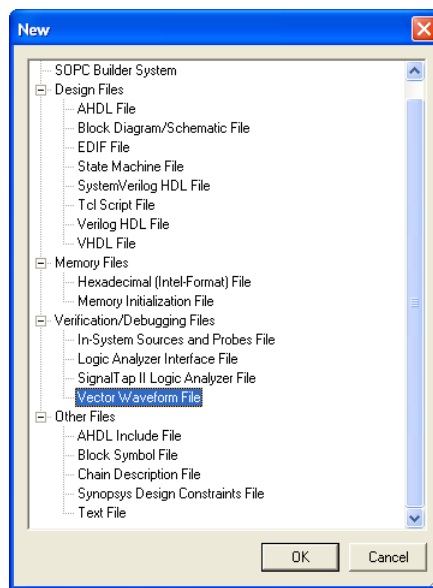

Figure 28. Need to prepare a new file.
1. Open the Waveform Editor window by selecting File > New, which gives the window shown in Figure 28. Choose Vector Waveform File and click OK.